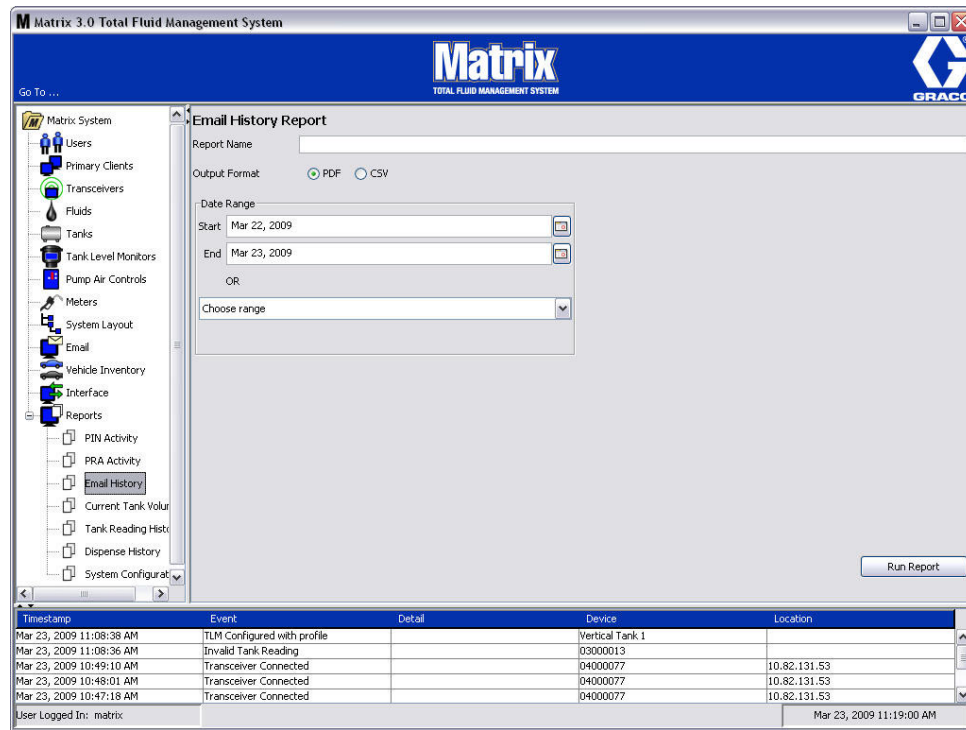

FIG. 171
- **Email History (FIG. 171)**